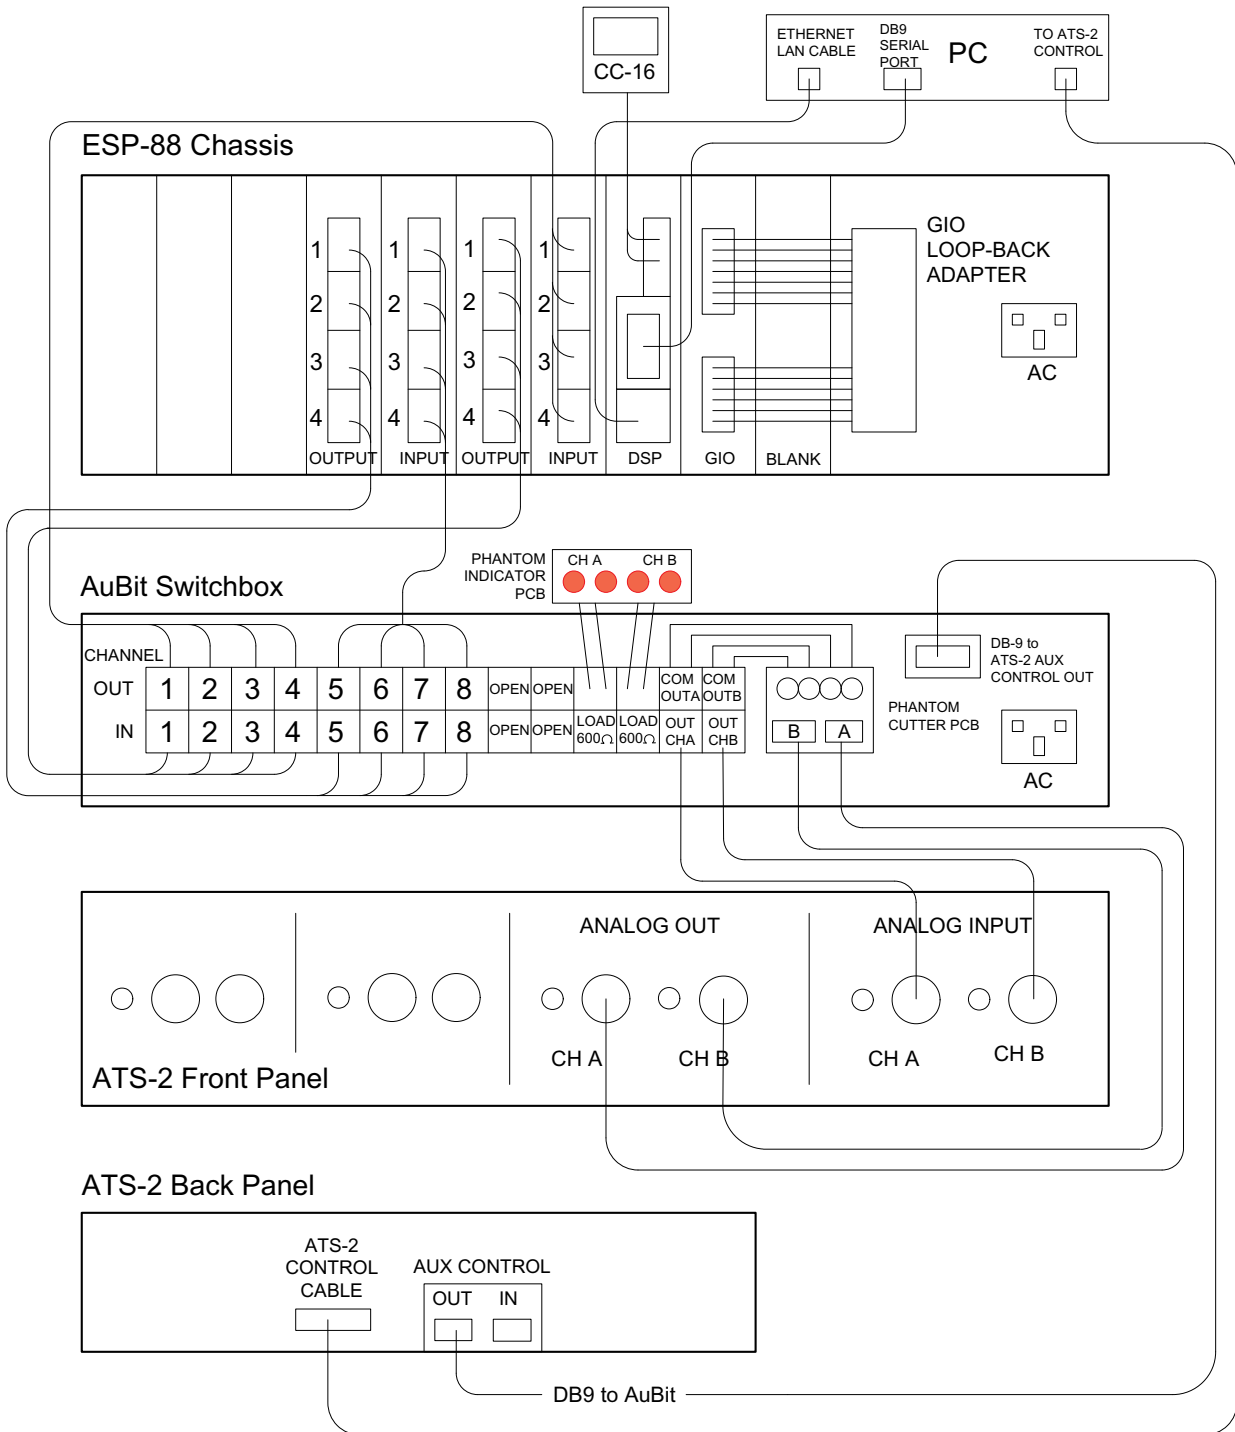

Figure 7. ATS-2, ESP-88 and AuBit Switchbox Test Setup Diagram
2. Connect the ESP-88 chassis under test to the AuBit switcher and the ATS-2 test station as shown in Figure 7.